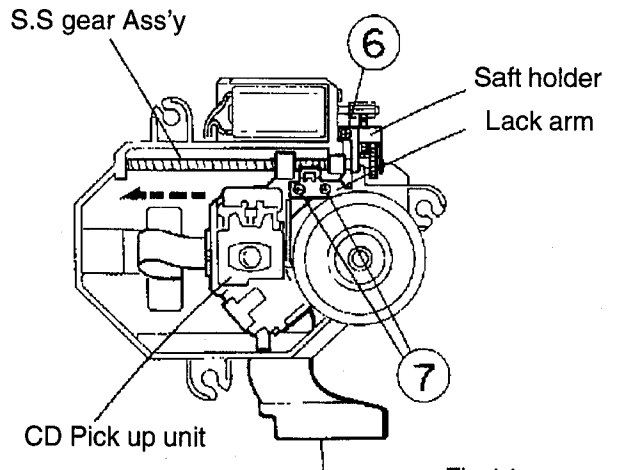

Fig.14
4. Shift the CD pickup unit in the arrow F direction (See Fig.14).
5. Remove the one screw ⑥ retaining the shaft holder(See Fig.14).
6. After removing the two screws ⑦ retaining the rack arm. take out the S.S. gear assembly(See Fig.14).